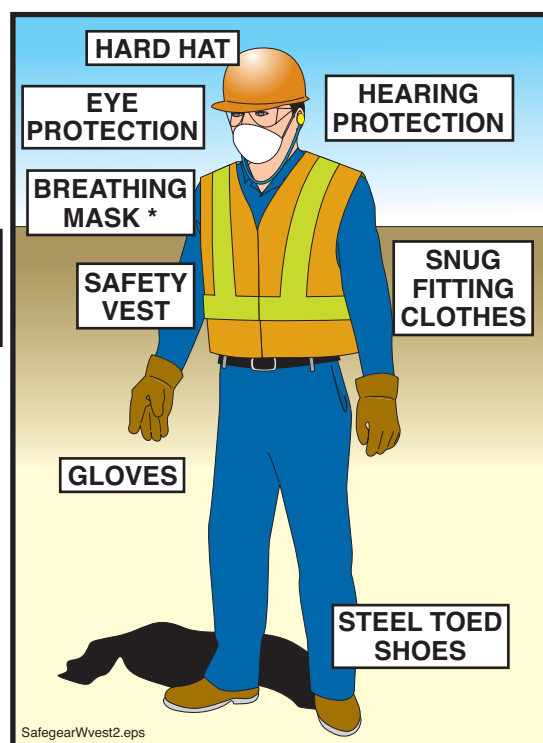

Figure 73
- 16.2 **WARNING** You should wear the same personal protective equipment (PPE) as the operator. Goggles, hard hat, ear protection, and rubber gloves are especially important when working near the hopper (Figure 73).